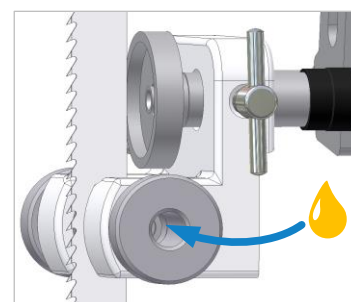

Figure 49: Oil side rollers
- Remove the sealing plugs from the rollers and put a few drops of oil in the bearings (see ⇒ Figure 49).